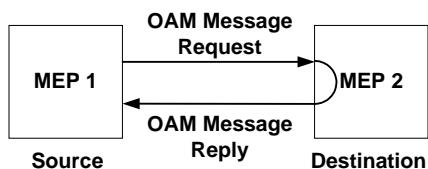

*Figure B-5. One Flow and Multiple CoS (Service Instances) per UNI*
*Figure B-3*, *Figure B-4* and *Figure B-5* illustrate different combinations of UNIs, flows and service instances. Each UNI contains at least one flow, which contain at least one service instance.
- In case of one flow and multiple CoS (Service Instances) per UNI (*Figure B-5*), the PM is transmitted three times and the CC – once.